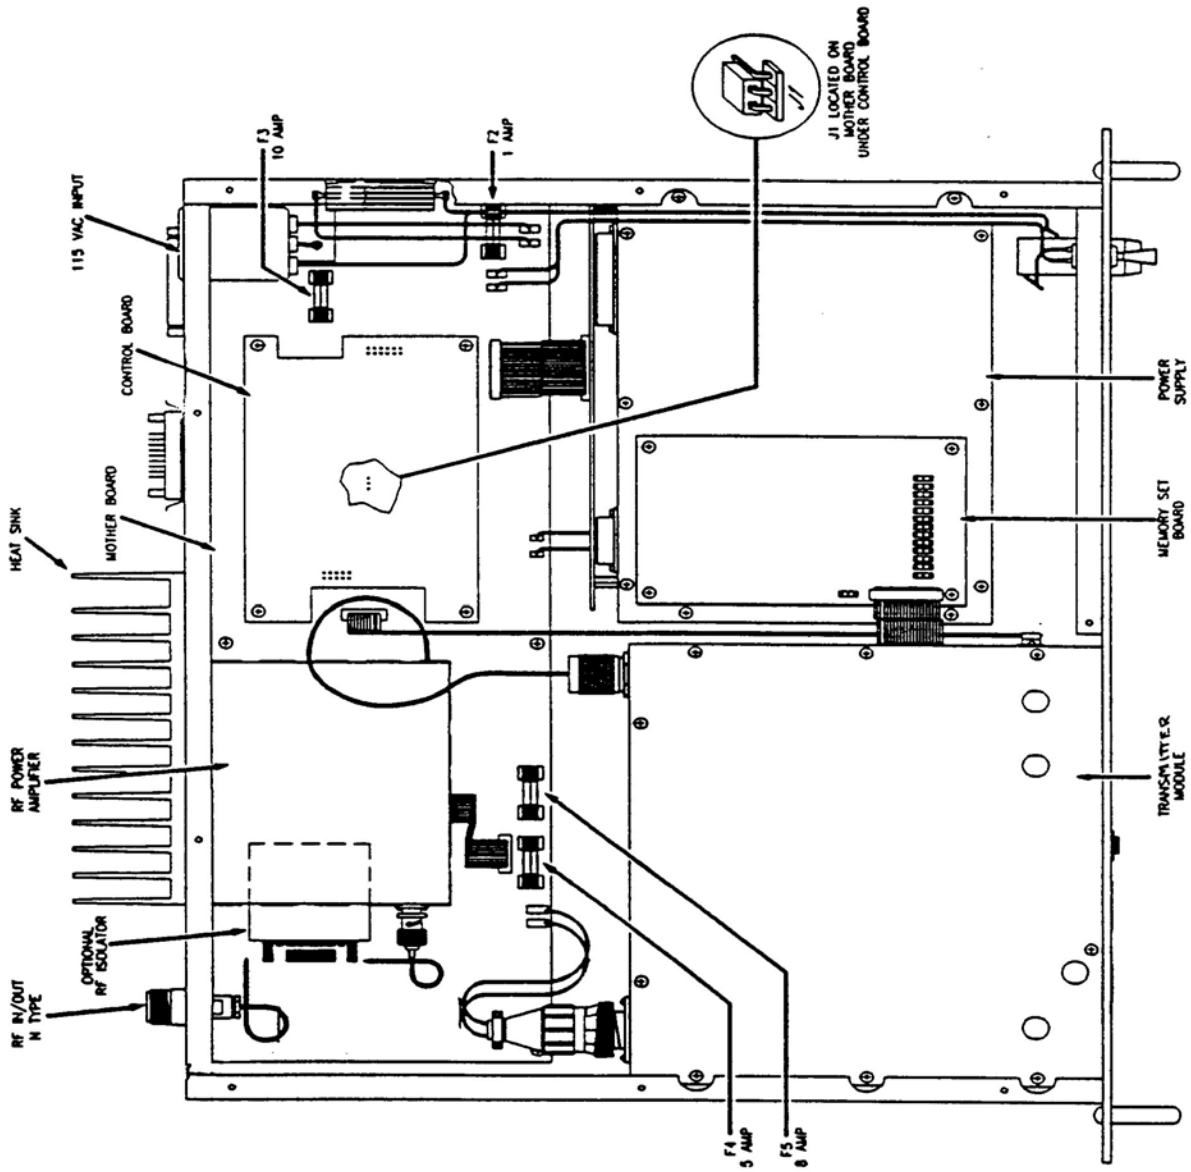

Figure 2.1 Single Channel Transmitter - Internal View
2.2 DISASSEMBLY/ASSEMBLY (Refer to Figure 2.1)
- (1) Remove and retain twelve screws securing top dust cover to the 19" rack chassis.
- (2) Please note the location of the three longer screws which travel through the heatsink shims riveted to the inside of the top cover.
- (3) Lift cover clear of chassis to expose internal view of transmitter as shown in Figure 2.1.
- (1) Remove dust cover as described in paragraph 2.2.1.
- (2) Remove and retain four screws securing Memory Set Board, Module A5A1 "piggy back" to the standoffs on the power supply cover. (See Figure 2.1 for location)